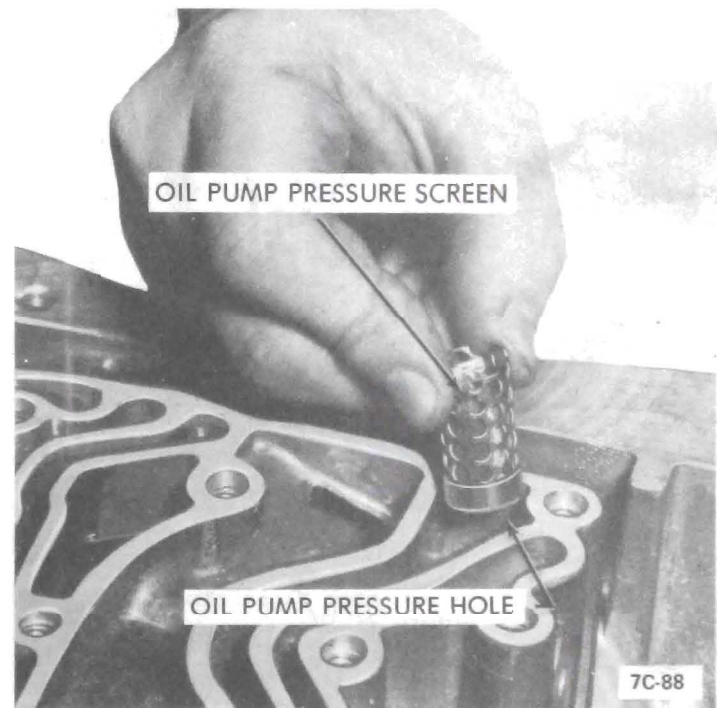

Figure 7C-88
2. Remove governor screens from case and clean. See Figure 7C-89.